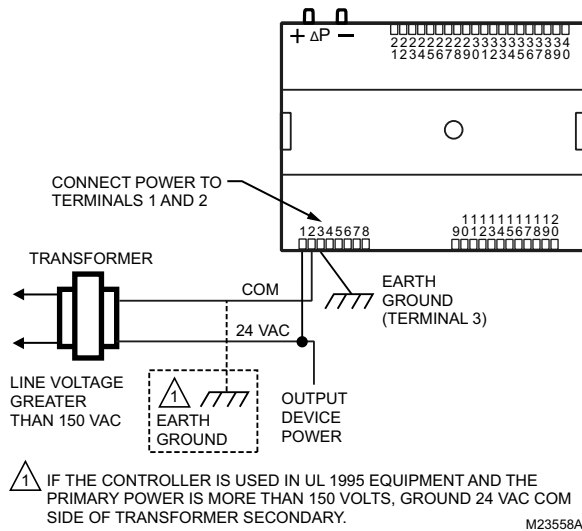

Fig. 12. Transformer power wiring details for one controller used in UL 1995 equipment (U.S. only).
- If a controller is used on Heating and Cooling Equipment (UL 1995, U.S. only) and transformer primary power is more than 150 volts, connect the transformer secondary common to earth ground (see Fig. 12 on page 10).
- See Fig. 12 on page 10 for controller power wiring used in UL 1995 equipment (U.S. only).
If the controller is used on **Heating and Cooling Equipment (UL 1995, U.S. only)** and the transformer primary power is more than 150 volts, connect terminal 2, (the 24 Vac common [24 VAC COM] terminal) to earth ground (see Fig. 12). For these applications, only one controller can be powered by each transformer.